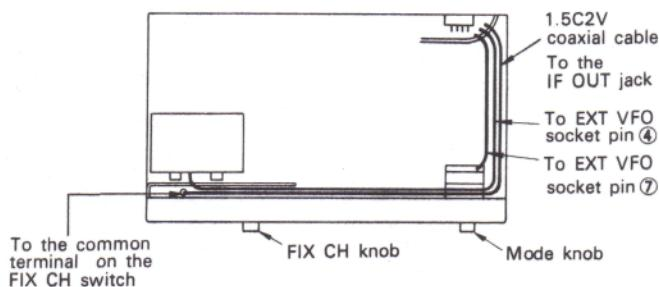

Fig. 11 Viewed from Bottom
1. Remove and insulate the coaxial cable from the IF Out jack. Connect the PLL Ass'y PD Unit (X50-1340-00) TP-4 to the IF Out jack by using the supplied 75Ω 1.5C-2V coaxial cable. Cable layout should be in accordance with Figure 11.
4. Connect TP4 on the PD unit with the IF Out jack by using the supplied  $75\Omega$  1.5C-2V coaxial cable, (Fig. 11).